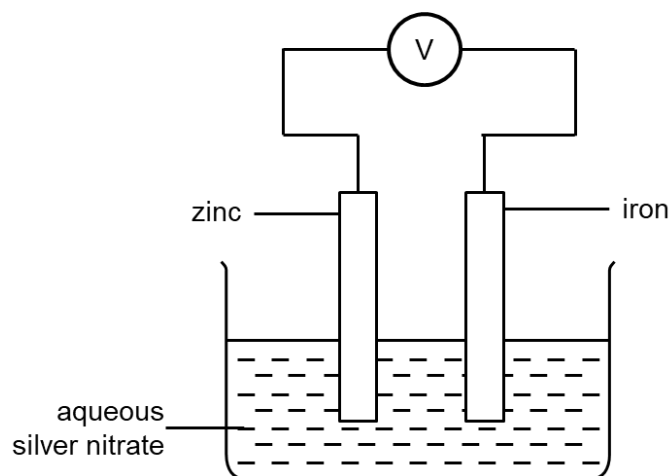

Fig. 9.1
B9 Wayne sets up a simple electric cell experiment shown in Fig. 9.1.
- (a)** Use your knowledge of energy conversion to explain why the simple electric cell in Fig. 9.1 is also known as a potable battery.